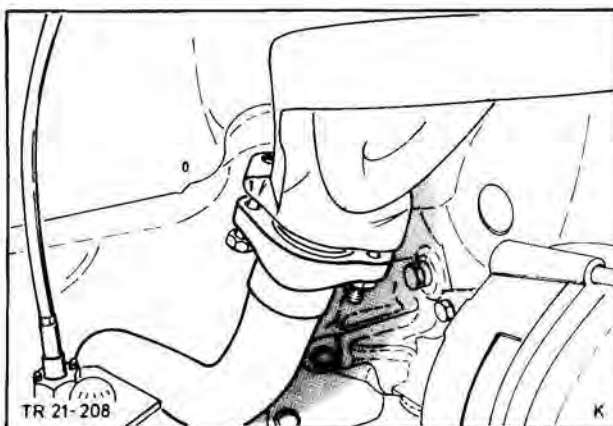

Fig. 17. Unbolt exhaust pipe ('B' engine)
12. Disconnect starter leads and remove starter motor (3 bolts), unbolt exhaust pipe from exhaust manifold (2 bolts), Fig. 17.